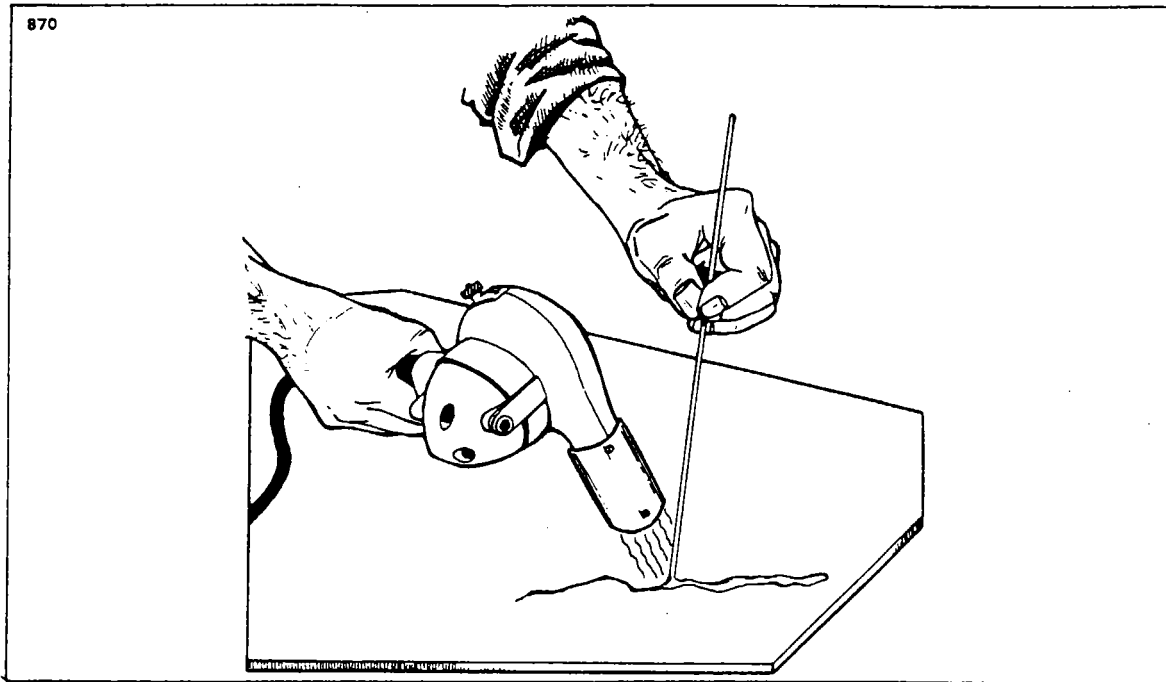

Figure 4-6. Welding Repair Method
10. This welding method requires a hot air gun and ABS rods. To weld, the gun should be held to direct the flow of hot air into the fusion (repair) zone, heating the damaged area and rod simultaneously. The gun should be moved continuously in a fanning motion to prevent discoloration of the material. Pressure must be maintained on the rod to insure good adhesion. (Refer to Figure 4-6.)